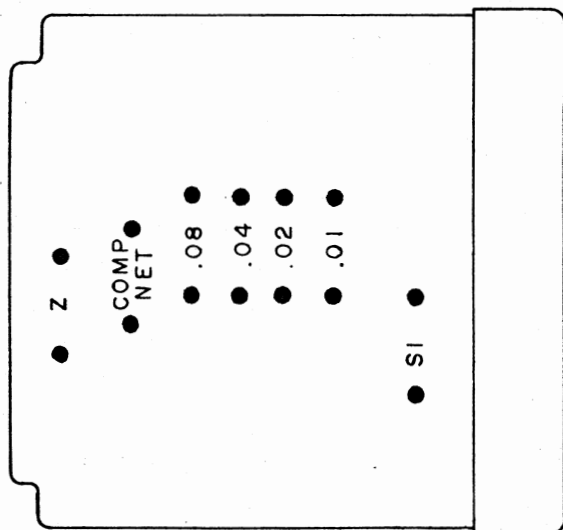

Figure 2. Strapping Post Location
5.03 The 441 and 442 Terminating Sets are provided with four strapping options. Strapping posts are provided on the printed-circuit side of the boards to facilitate strapping. Perform the strapping procedures as required, in accordance with the following paragraphs and Figure 2.